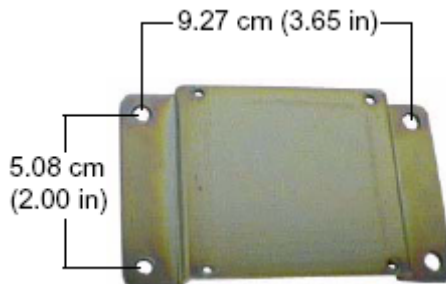

Fig 4-10 : Mounting Plate Dimensions
- 1) Mount the transducer and interface module. The same mounting plate is used for IM4000-3, -4, or -5, as shown in Figure 4-10.
- 1) Fasten the mounting plate (with attached PT4000) to a wall or other permanent fixture using standard installation practices. Refer to the dimensions in Figure 4-10.